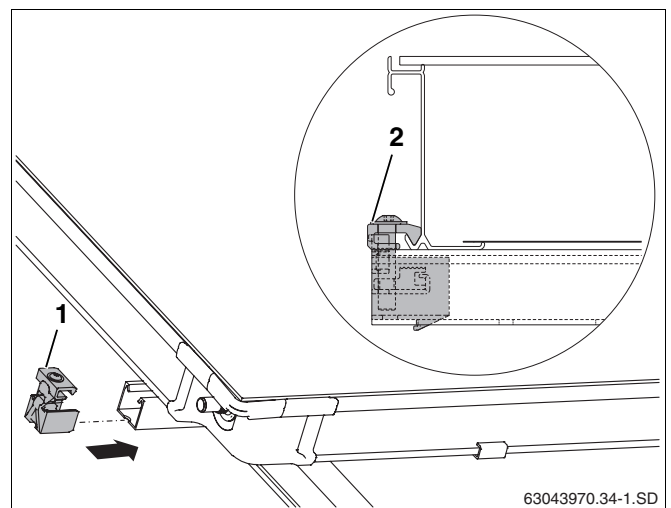

Fig. 52 Single-sided collector clamp (left)
- ▶ Push single-sided collector clamp (Fig. 52, **Item 1**) into upper and lower profile rails.
- ▶ Push collector clamp up against the collector frame and screw in place using size 5 spanner (Fig. 52, **Item 2**).
The grip (Fig. 52, **Item 2**) on the collector clamp now grips the lower collector edge.